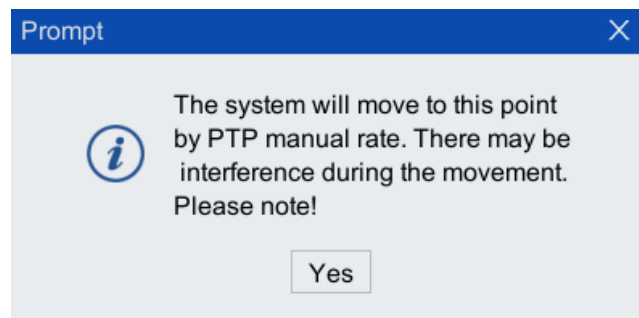

Figure 5-106 "Prompt" Box
Step2. Then click the <Move> button, as shown in Figure 5-106, "The system will move to this point in manual override PTP mode. There may be interference during the movement, please pay attention!" "Prompt" box. After clicking <Yes>, the robot starts to move. At this time, the display of the <Move> button immediately changes to <Stop>. If there is interference during the movement, you can directly click the <Stop> button to stop the movement, and wait until the robot moves to the selection. After the selected point, the <Stop> button returns to the <Movement> button.